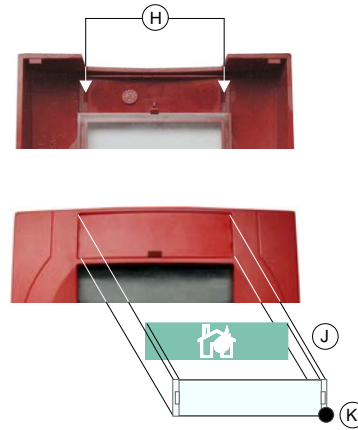

Fig. 5
With the call point housing open remove the transparent plastic label cover (Fig. 5) by prising it out at points (H). Then insert the appropriate identification label (J) from the front. Align the cover with the mark/number (K) and snap it back into place, checking that it is aligned correctly.